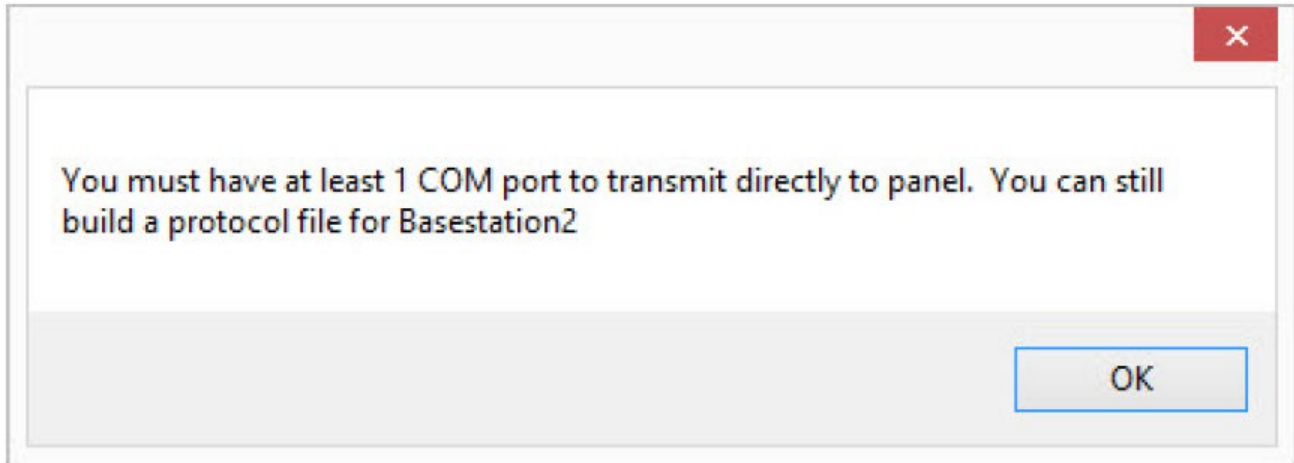

Figure 44-1
Note: If a USB to serial adapter is not connected or a serial port is not available when the RxLoader program is opened a warning screen will appear. See Figure 44-1.
- Select OK to continue. See Figure 44-1.